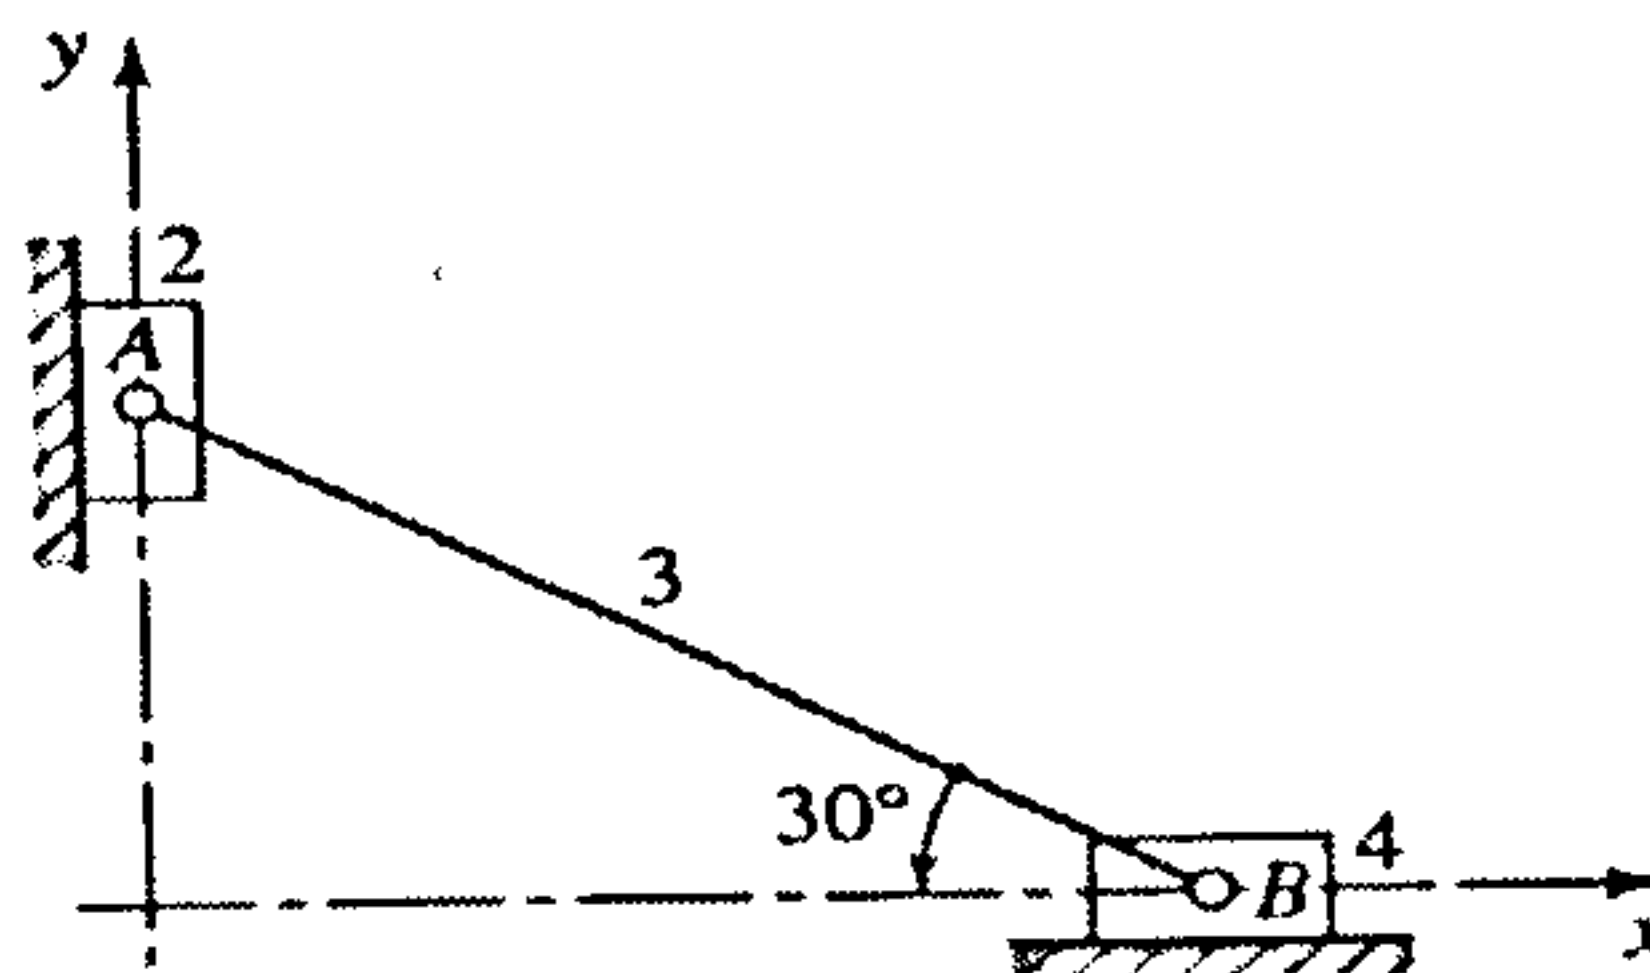

Figure-1
2. Find the inflection circle for motion of the coupler of the double slider mechanism shown in the Figure-1. Given  $AB = 125$  mm. 14 M